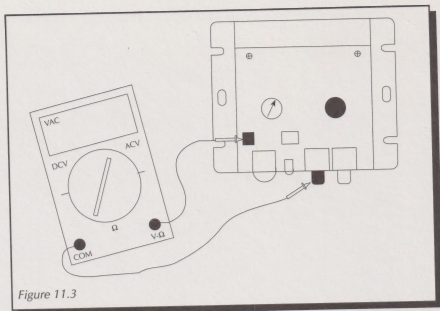

Figure 11.3
- STEP 7** Attach positive lead of AC voltmeter to test pad on circuit board. (Figure 11.3)